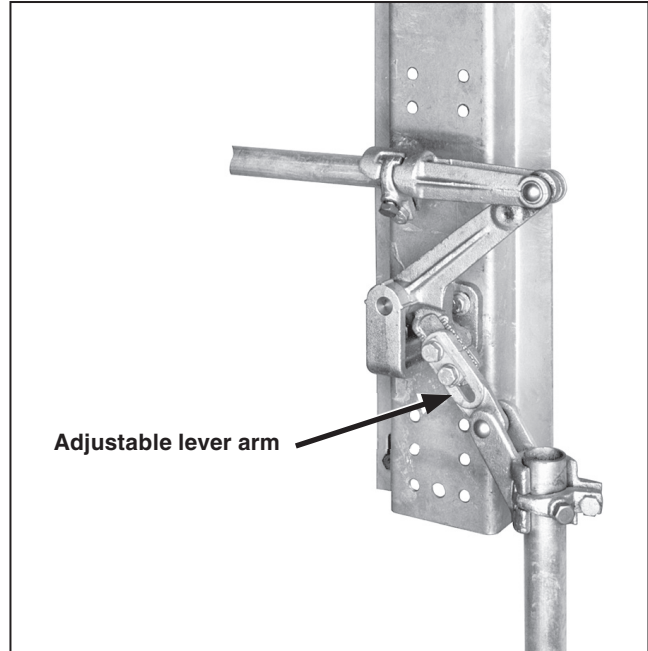

Figure 31. Torquing the bolts on the adjustable lever arm of the bell-crank.
- (g) When satisfactory travel adjustment of the operating handle and switch have been attained, torque the bolts on the adjustable lever arm of the bell-crank and the clamp bolt on the rod guide (or bell-crank) coupling to final tightness. Then, tighten the associated piercing set screw, piercing the pipe, and continue turning until a firm resistance is felt. See Figure 31.